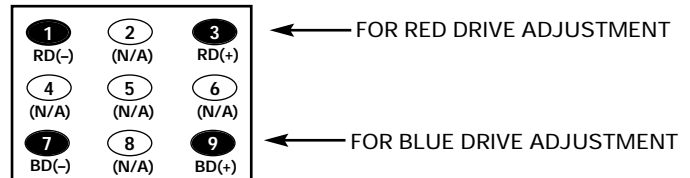

Figure 2.
**Note 3. Red/Blue Drive Adjustments in Service Menu NO. 72 DRV:** Adjust Red and Blue Drive Levels alternately with 1, 3, 7, and 9 keys on the remote control. (See Figure 2.) The Drive Level adjustment data will be written in the Service Menu No. 18 and 20 automatically.